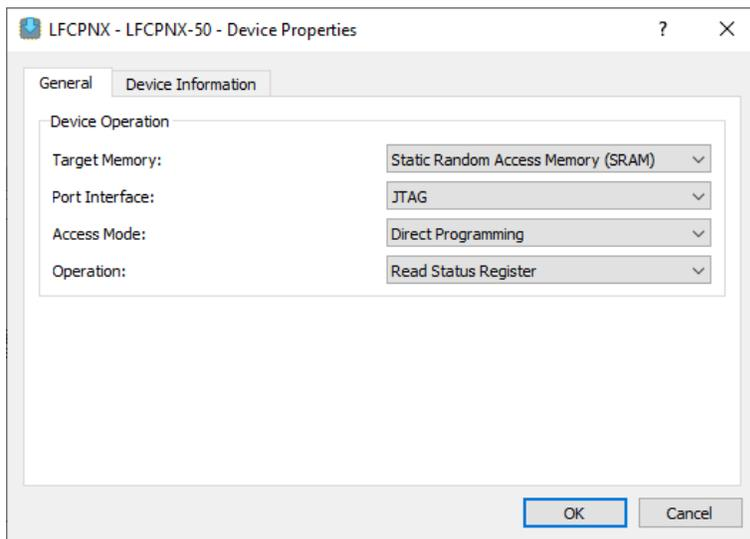

Figure 9.1. Reading Device Status Register using Radiant Programmer
5. After the programming is successful, reconfigure or power cycle the FPGA. You should be able to observe the FPGA is now loading the Golden image instead of the Primary image. You can identify which image is loaded to the FPGA by observing the functionality of the design or using the Radiant Programmer to read the Status Register as shown in Figure 9.1.
3. Read the Status Register using Programmer as shown in Figure 9.1.